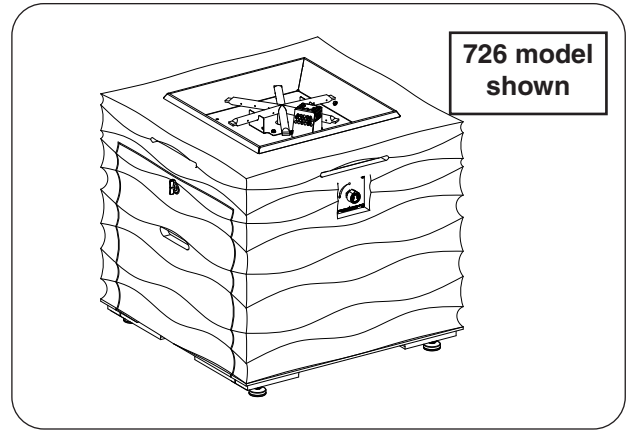

Fig. 26-1 Place unit
1. **Carefully** place the unit in an appropriate location (see Fig. 26-1, and refer back to the LOCATION section if needed).